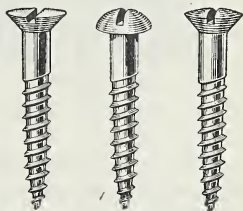

Fig. 125. A screw is an inclined plane.
**The screw.** The screw jack used to raise an automobile is a familiar machine. The screw is an inclined plane, wound around a cylinder. When you give a screw one complete turn, you have driven the screw into the wood a distance equal to the distance between two of the grooves on the screw (Fig. 125). Theoretically, by making the distance between the grooves small and the head of the screw large, it is possible to secure a very great mechanical advantage. However, the friction of the screw turning in the wood or metal is so great that its efficiency is very small. You are, of course, familiar with the uses of the wood screw and the use of machine bolts in the automobile. The finer the thread, the greater the mechanical advantage of the screw but also the more likely the thread is to strip.